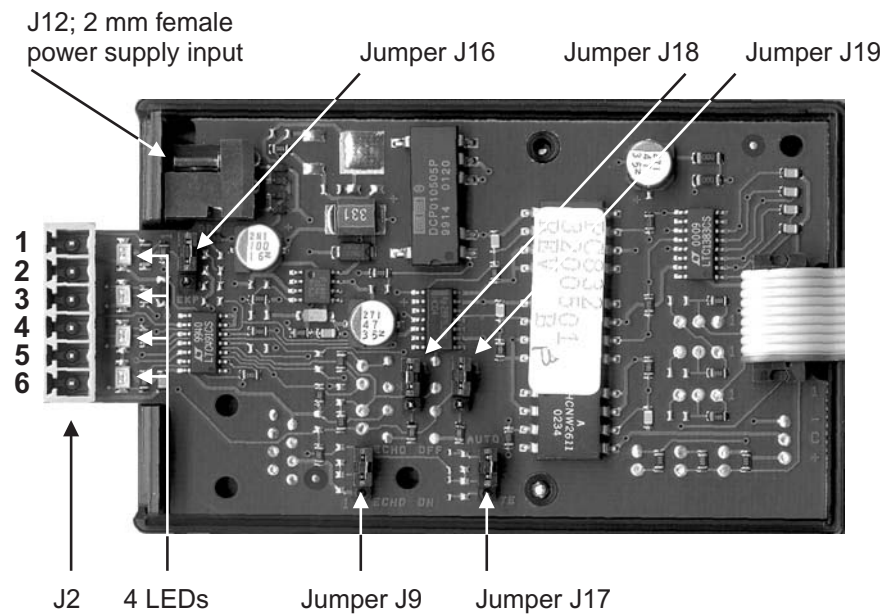

Figure 4
Jumper J16 configures the SIOC03 module to supply current from the PWR connection on jumper J2. This setting should only be used when connecting the SIOC03 to BERGES Enhanced Keypad. **Note that having the jumper configured to EKP with another product may cause damage to that product or the SIOC03.** The default setting for this jumper is DRV and should not be changed from this position unless an Enhanced Keypad (EKP) is being reflashed. Refer to Table 2 for the proper jumper placement. Figure 4 provides the location of the jumper.
Echoing can be enabled or disabled by selection jumper J9. The default setting for this jumper has echoing enabled. Table 3 shows the possible connections for this jumper. Figure 4 provides the location of the jumper.
Jumper J17 configures the SIOC03 to use the RTS line as the transmit enable (TE) or to have an automatic transmit enable based on the state of the Txd line (AUTO.) The default setting for this jumper is AUTO. Refer to table 4 for the possible connections for this jumper. Figure 4 provides the location of the jumper.
When an RS485 network is in an idle state (no communication is being transmitted or received), a proper idle voltage state of at least 200 mV must be maintained between the SIO+ and SIO– lines. The proper idle voltage state must be maintained by selecting the proper biasing resistors for the network. A 10k ohm pull-up resistor (R2) on the SIO+ line and a 10k ohm pull down resistor (R20) on the SIO– line do the SIOC03 biasing. When a terminating resistor is placed between the SIO+ and SIO– lines, however, 10k ohm resistors may not produce enough voltage difference between the SIO+ and SIO– lines to signal an idle state. As the voltage difference between SIO+ and SIO– increases, the probability of corrupt communication increases. The SIOC03 provides a method of reducing the biasing resistors to improve communications for the terminated, noisy, or multi-dropped network. Jumpers J18 and J19 place a 1k ohm resistor in parallel with the 10k ohm bias resistors dropping the biasing to 910 ohms. This will increase the voltage difference between the SIO+ and SIO– communication lines. Figure 4 shows the position of the jumpers when the extra resistance is not added. The SIOC03 also provides a place to add through hole resistors (R49, R50) in parallel to the biasing resistors so that the resistance can be dropped even further.